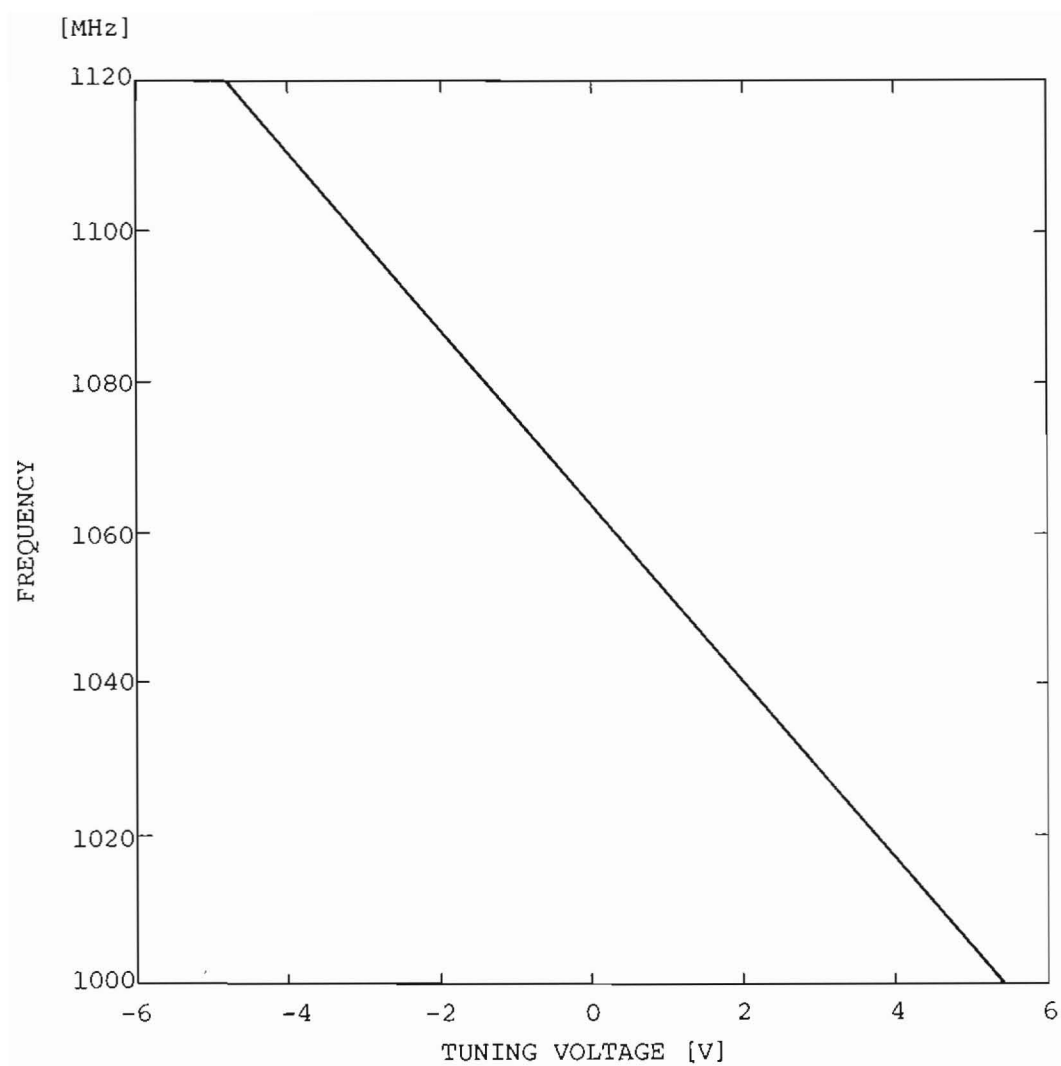

Fig. 5-40 Tuning Characteristics of M/N VCO (Z16-Z6)
The tuning voltage is applied to terminal ①. The typical characteristics of the tuning voltage versus the fM/N VCO are shown in Fig. 5-40.